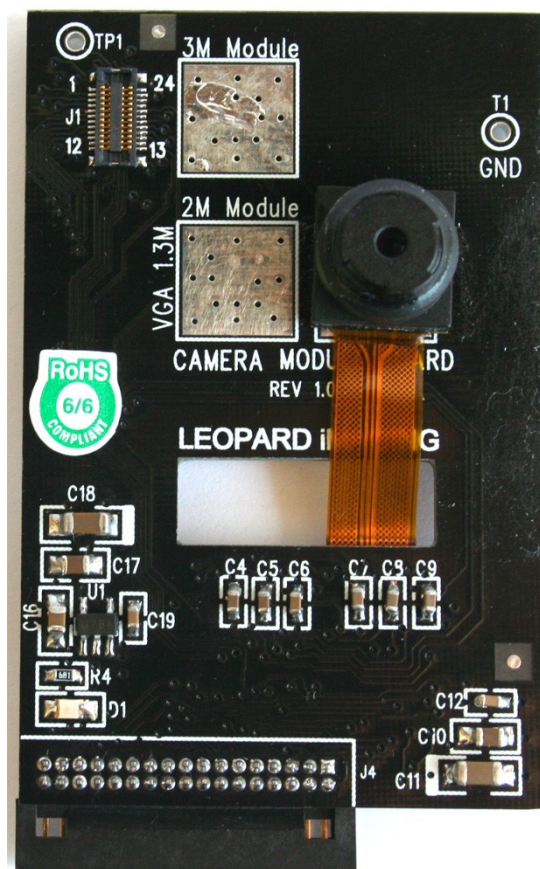

Figure 11. 5M Camera Board
1.2.5.5 5 Mega-pixel Camera Board, see Figure 11